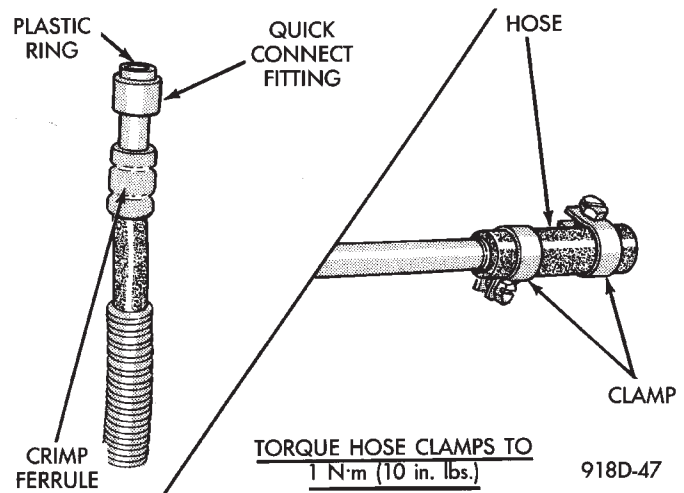

Fig. 7 Quick Connect Fuel Fittings to Fuel Rail
(12) Remove the fuel hose quick connect fittings from the fuel rail using an open end wrench to push in on the plastic ring located on the end of the fittings. Gently pull the fittings from the fuel rail (Fig. 7).